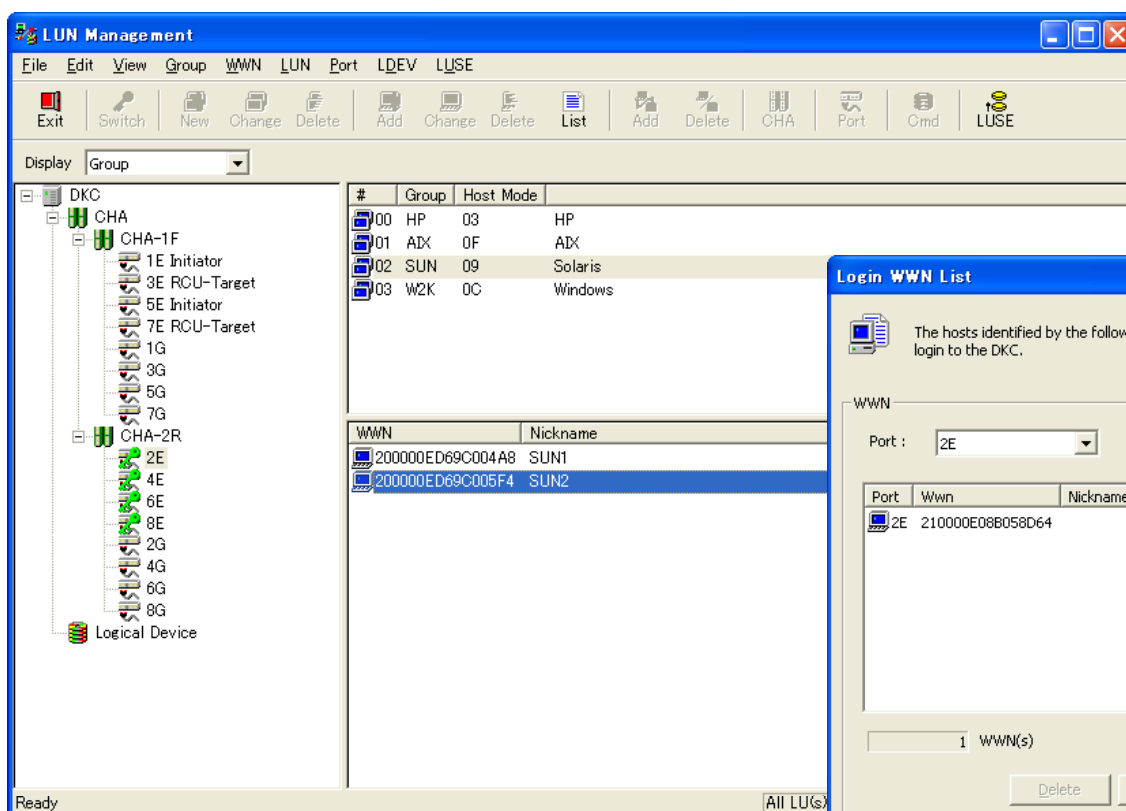
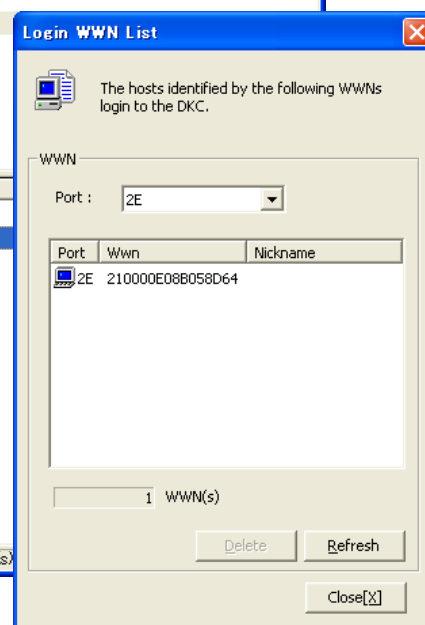

Fig. 3.19-7 Main Window
Fig. 3.19-8 Login WWN List Window
Select (DR) [Login List] from the [WWN] menu in the Main Window (Fig. 3.19-7), Login WWN List Window (Fig. 3.19-8) is displayed.